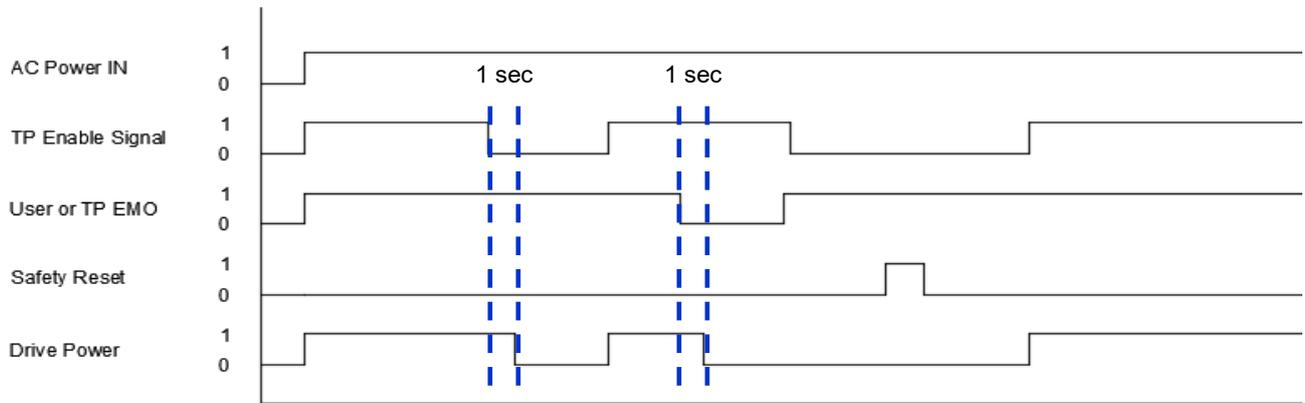

Figure 7.43 T1 mode safety signal timing chart
8. The safety signal timing chart of the controller under T1 mode is as shown in the figure 7.43 below.